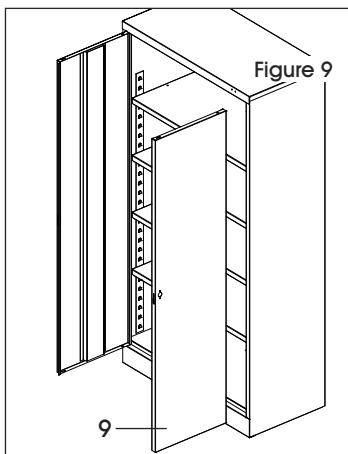

Figure 9
10. Attach the right door (9) to the unit in the same way you attached the left door. (See Figure 9)